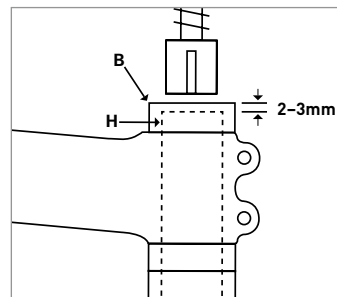

Figure 6
- Carefully measure and mark the amount of steerer tube to be removed. Remember that, when cut, the top of the steerer tube must be 2–3mm below the top of the headset spacer/stem assembly (Fig. 6).